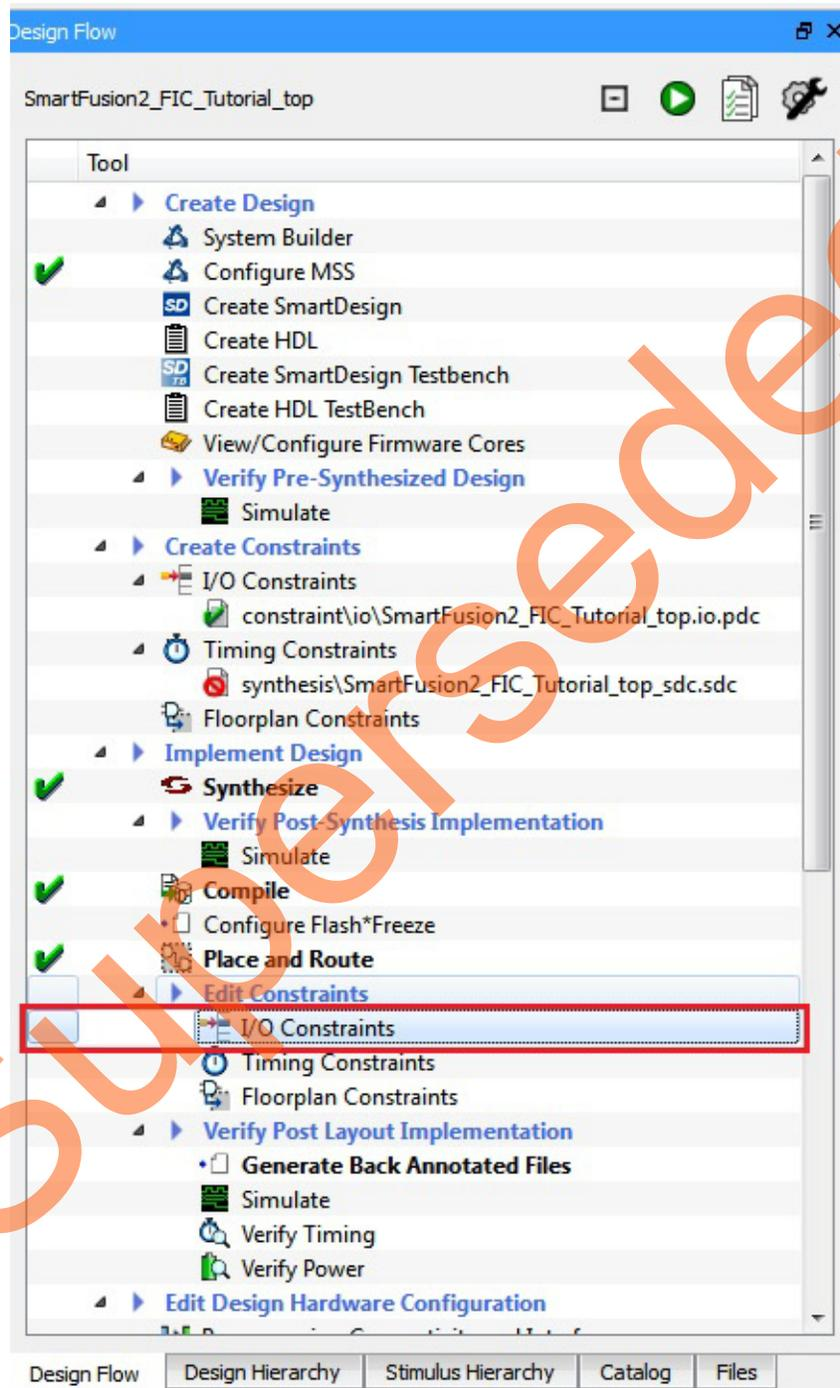

Figure 32 • I/O Constraints
1. Double-click **Edit Constraints > I/O Constraints** in the **Design Flow** window as shown in Figure 32. The **I/O Editor** window is displayed after completing Synthesize and Compile.